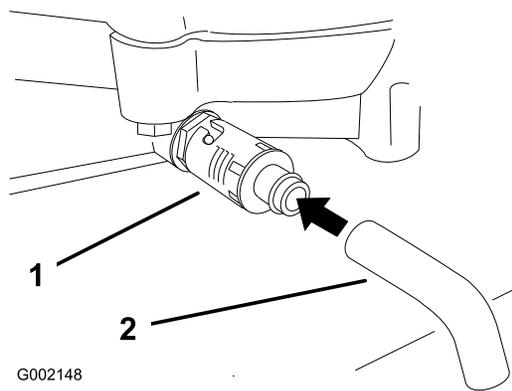

Figure 19
4. Place a pan below the drain. Rotate oil drain valve to allow oil to drain (Figure 19).